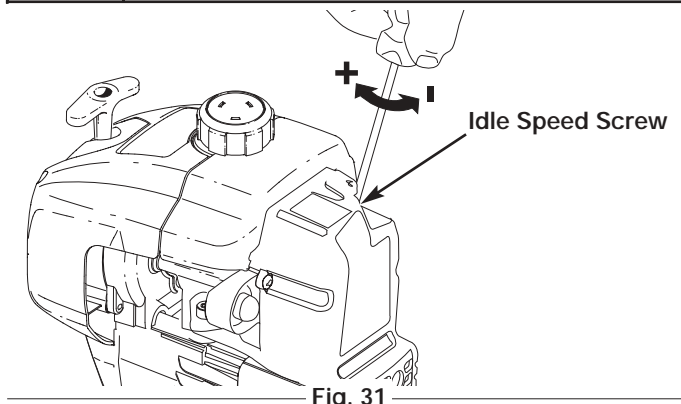

Fig. 31
The idle speed of the engine is adjustable through the air filter/muffler cover (Fig. 31).
2. Release the throttle trigger and let the engine idle. If the engine stops, insert a small phillips or flat blade screwdriver into the hole in the air filter/muffler cover (Fig. 31). Turn the idle speed screw in, **clockwise**, 1/8 of a turn at a time (as needed) until the engine idles smoothly.